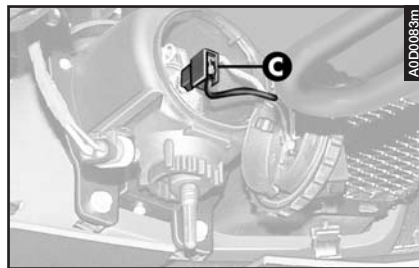

fig. 51
- Disconnect the connector (**C- fig. 51**) from the bulb.